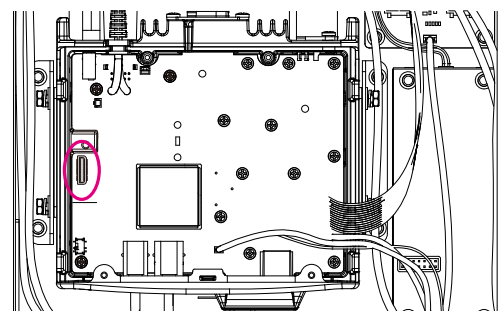

Figure 2
- 5 Refer to Figure 2 for the mounting location for the FVS-2.